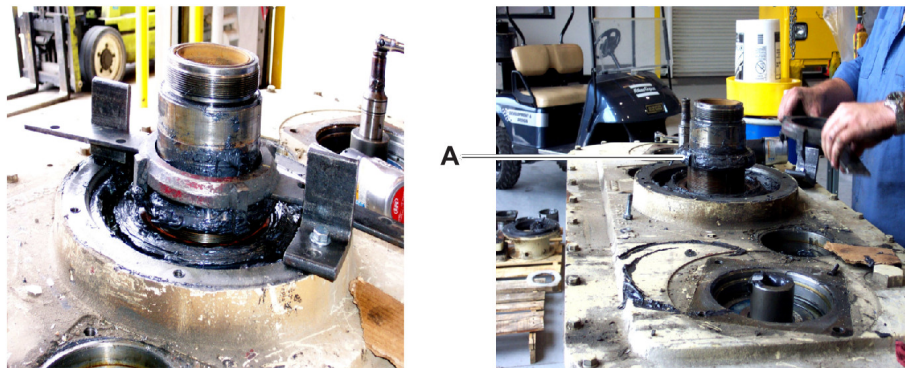

Figure 12
13. Before completely removing the upper bearing adjusting nut (Figure 12, item A), install a small floor jack or scissor jack below the spindle to lift and support it through Step 1, 2, and 3 in Remove the Output Gear from the Spindle. The upper spindle bearing cone and cup will be removed along with the cover shown in Steps 16 and 17.